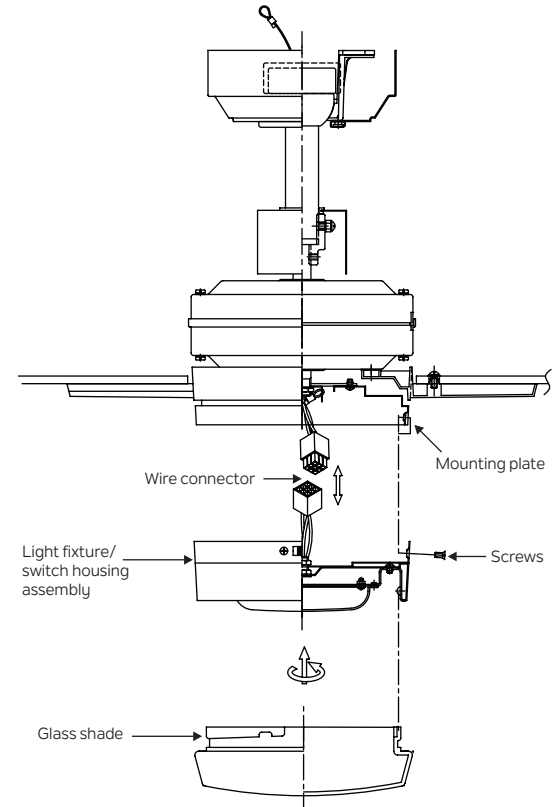

Fig. 18
Step 1. While holding the light fixture/switch housing assembly under your ceiling fan, push the square wire connectors together. One from the fan and one from the switch housing. (Fig. 18)
Attach the light fixture/switch housing assembly to the mounting plate with the three screws provided. Make sure each screw is tight. (Fig. 18)